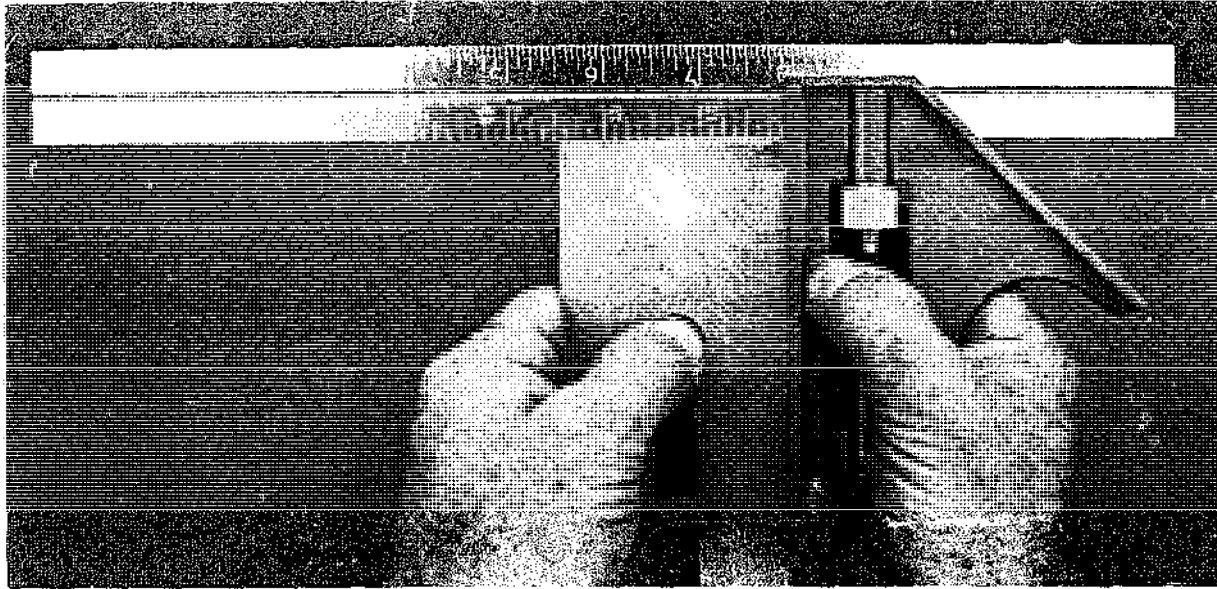

Fig. 8-57 Testing for squareness.
3. Check the squareness of the cutting edge of the plane iron with a try square, figure 8-57. If the edge is not square, mark a pencil line on the side opposite the bevel as close to the edge as possible. Use this as a guide for grinding the edge square.